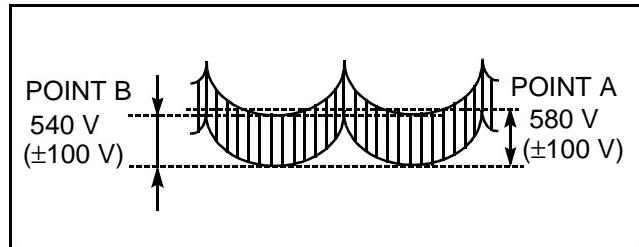

Figure 28. D. Focus Adjustment Waveform
6. Confirm waveform as shown in Figure 28